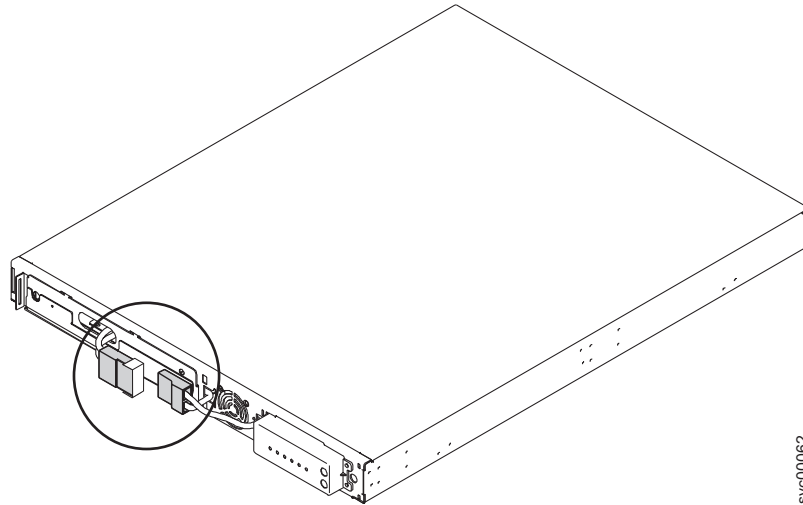

Figure 68. The 2145-1U uninterruptible power supply internal battery connector with protective tape
4. Remove the protective label from the internal battery connector (shown in Figure 68 on page 83).